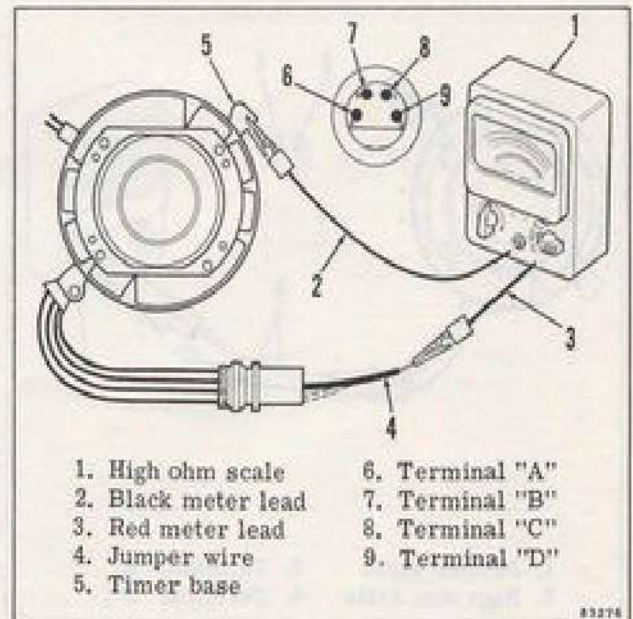

Figure 4-21. Sensor Coil Shorts to Ground
g. To test for shorts to ground, calibrate the ohmmeter to high ohm scale. Connect the black meter lead (-) to the timer base (ground). Attach the red meter lead (+) to the "A" terminal, then "B," then "C," then "D," jumper wire in the connector. See Figure 4-21. Any needle movement indicates the sensor coil or leads are shorted to ground. A shorted sensor must be replaced, or the grounded lead repaired to remove the shorted condition.